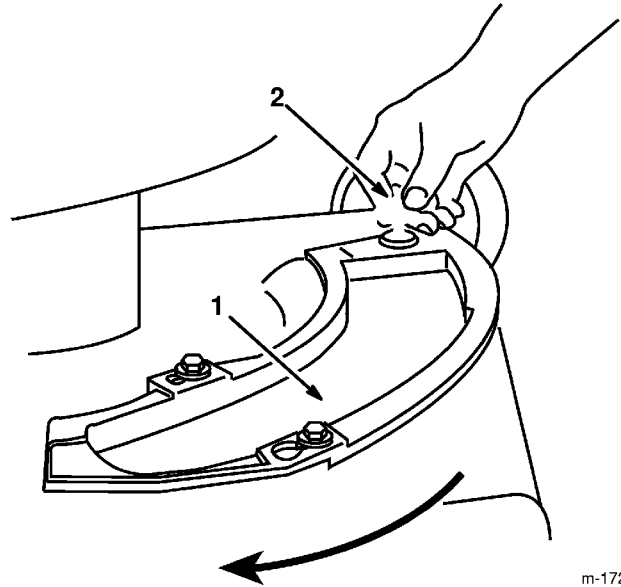

Figure 4
Your mower was shipped with a cover plate (Fig. 4). For side discharge operation, the plate must be installed into deck opening.
2. Remove knob that fastens cover plate to the housing (Fig. 4).